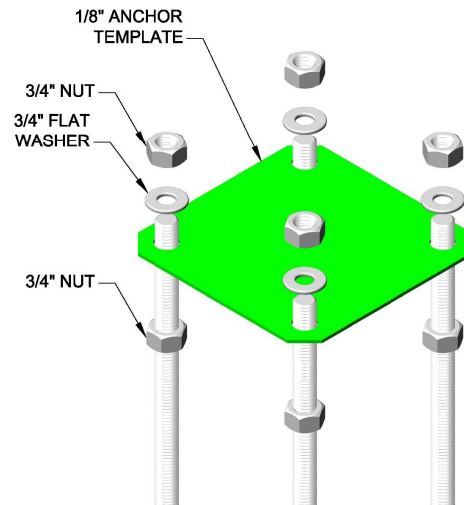

FIGURE 7
3. Install a 3/4" nut (Item 12B) onto each anchor rod (Item 7). Screw the nut onto the rod 4 1/4". Make sure 4 1/4" of thread is exposed above the nut. (Figure 7)